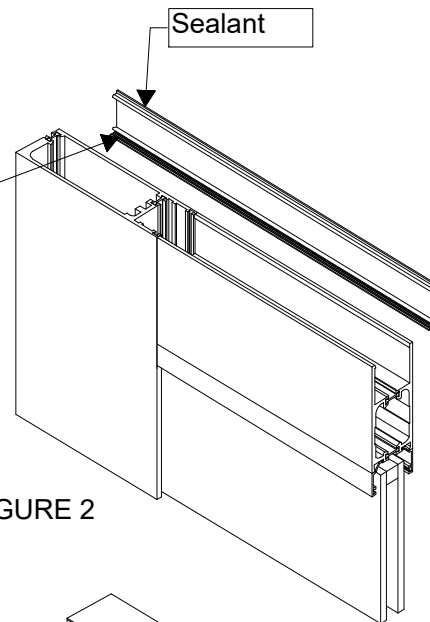

FIGURE 2
- Attached threshold clips with provided screws (S070 - #12-24 x 1/2"). See Figure 2 and View A. Assemble frame as shown.
- Attached threshold clips and offset frame portion with provided screws. See Figure 2 and View A.
- Run a bead of sealant along the length of the weather inhibitor. See Figure 2.
- Slide gasket back into the door sweep. See Figure 2.